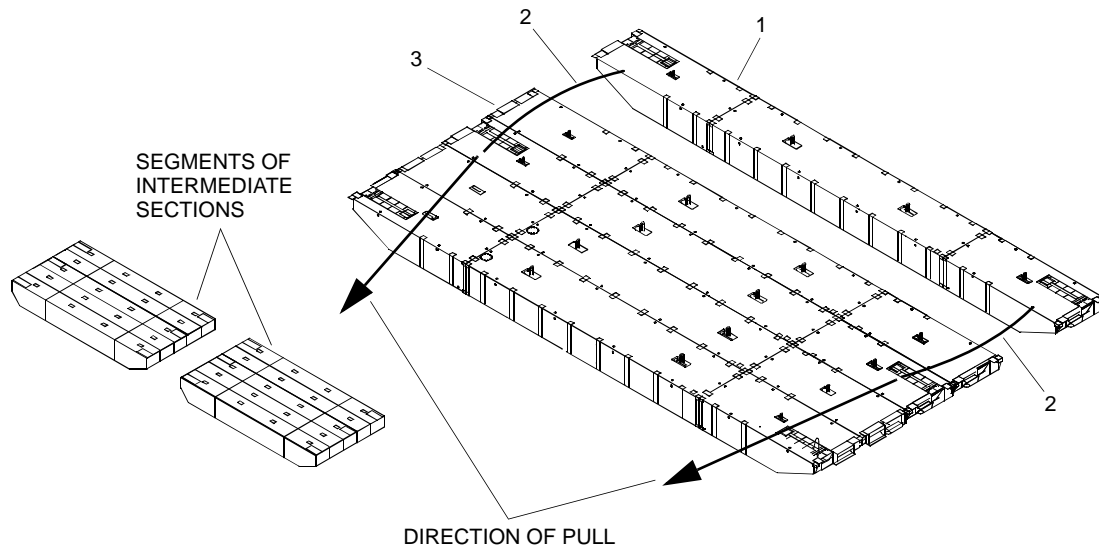

Figure 20. Segment Assembly
1. Position intermediate section (figure 20, item 1) using rope/lines (figure 20, item 2), flush turn tubes, deck cleats, and warping tug, so that the tapered surfaces of male and female connectors mate together in general alignment on the other intermediate section (figure 20, item 3).